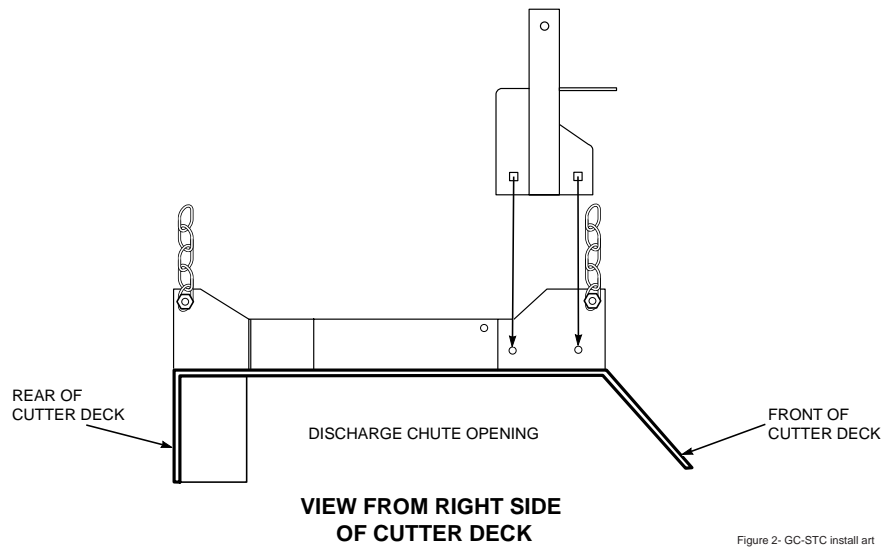

FIGURE 2
5. Install the blower mounting bracket to the deck using carriage bolts (p/n 04003-11), lockwashers, and nuts. Do not fully tighten the hardware at this time. See Figure 2, Page 3